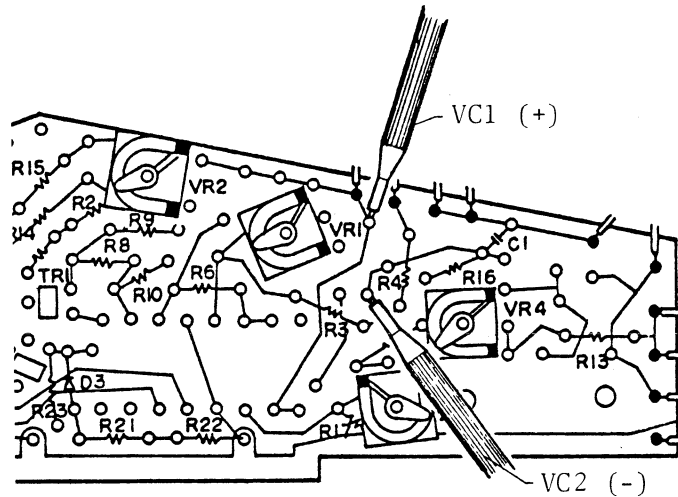

Fig.15
Temporarily solder about 5cm length lead wire to each pin ① and ② and the lead wire from (+) pin ① is VC1 and other is VC1 as shown in the Fig. 15.